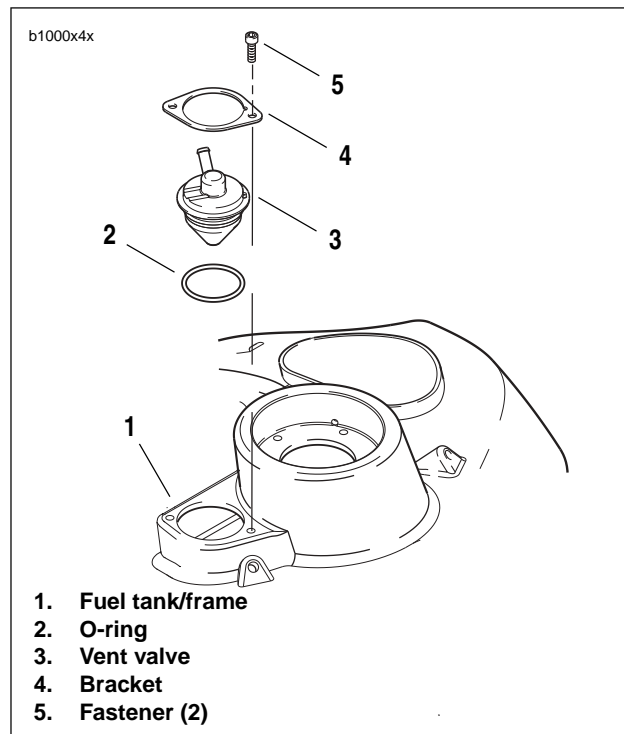

Figure 4-207. Fuel Tank Vent Valve
3. See Figure 4-207. Remove vent valve fasteners (5).
4. Remove bracket (4), vent valve (3) and o-ring (2) from fuel tank/frame (1).
1. See Figure 4-207. Install **new** vent valve o-ring (2).
2. Install vent valve (3) into fuel tank/frame. Vent valve nozzle should be at approximately the 7:00 position.
4. Loosely install vent valve fasteners (5).